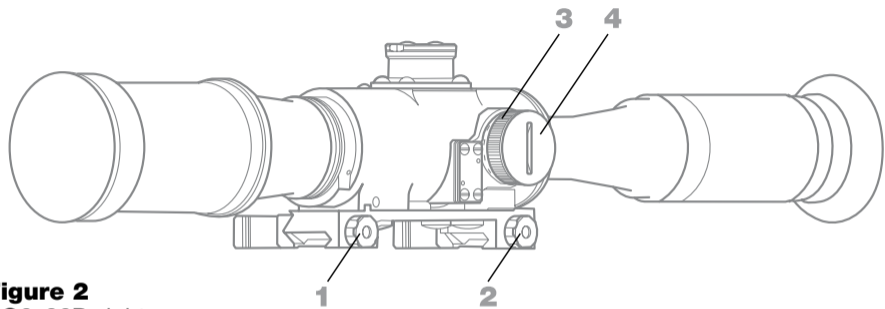

Figure 2
- disengage the nuts 1, 2 (Figure 2);
Reticle brightness can be adjusted by turning the body of battery compartment 3 (Figure 2). The body of battery compartment 3 is marked with figures from “0” to “12”. The sight is switched on when rotating the body of battery compartment 3 in the direction of figures increasing. This direction of rotation increases brightness of the illumination, while rotation in the opposite direction decreases the brightness. The sight is switched on when figure “0” is set against the notch on the sight body.
Sight is powered from one CR2032 lithium battery (hereinafter referred to as “battery”). Install battery into the sight (Figure 2) in the following sequence: